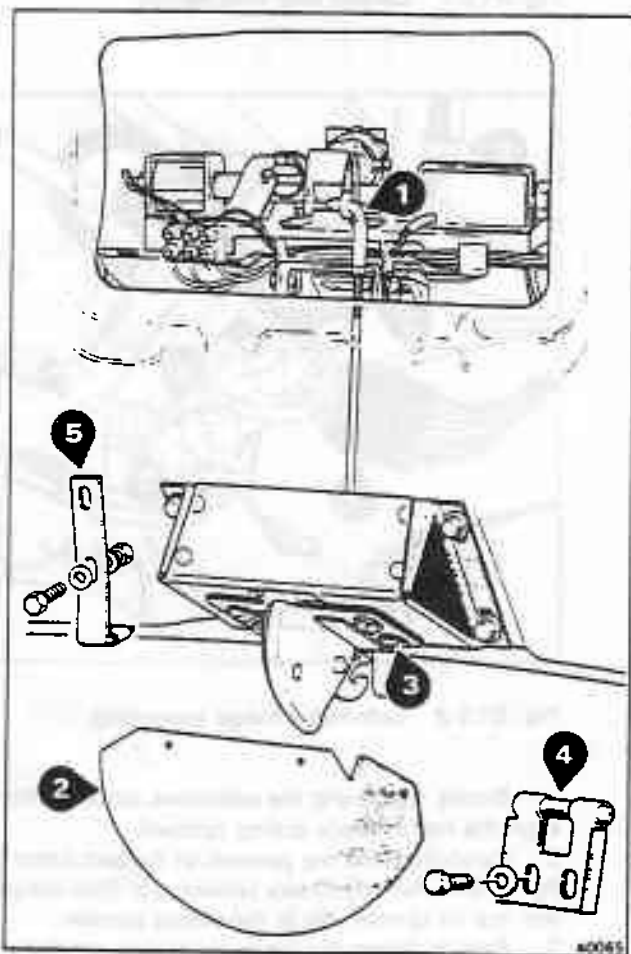

Fig. S13-3 Catch mechanism
2. Carefully mark the position of the lock catch (see fig. S13-3, item 4) before removing it. This ensures that the lid cannot jam in the closed position.
5. Ensure that the overtravel stops (see fig. S13-3, item 5) are positioned to give approximately 2.0 mm (0.078 in) of luggage compartment lid overtravel. This prevents damage to the paintwork as the luggage compartment lid is closed.
Catch mechanism - To remove (see fig. S13-3)
Catch mechanism - To fit (see fig. S13-3)